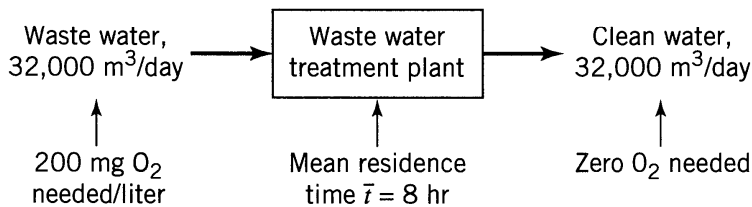

Figure P1.1
1.1. Municipal waste water treatment plant. Consider a municipal water treatment plant for a small community (Fig. P1.1). Waste water, 32 000 m³/day, flows through the treatment plant with a mean residence time of 8 hr, air is bubbled through the tanks, and microbes in the tank attack and break down the organic material